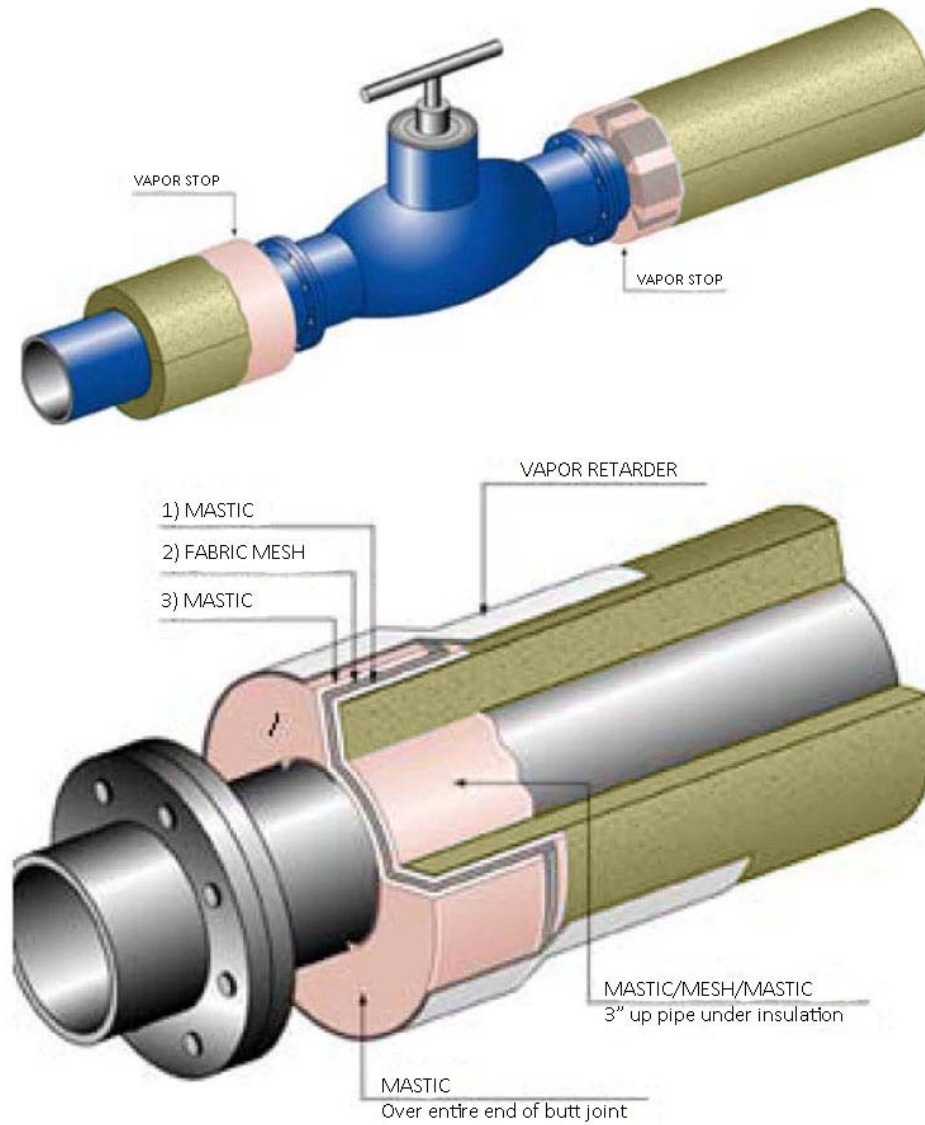

Figure 6
- 4.1.15 Vapor stops shall be used on either side of valves frequently removed for servicing, valve stations left exposed, or odd fittings, elbows, tees, etc. where the chance of moisture infiltration is high. Install per detail in Figure 6 in Appendix B or an approved alternate design.